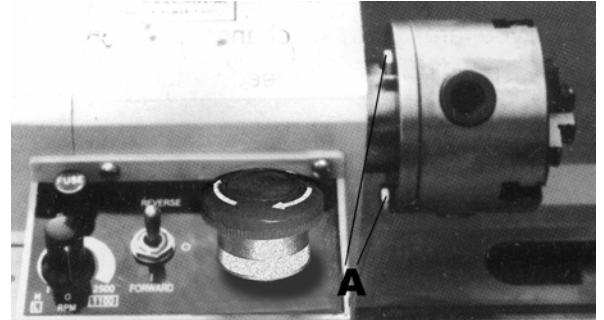

FIGURE 4
When replacing the chuck, place a cloth or a piece of wood on the bedway underneath the chuck. This is to avoid damage to the bed way caused by carelessly dropping the chuck. Loosen the three set screws and nuts (A) (only two are shown) as shown in Fig. 4, to remove the chuck. Position the new chuck and fix it using the same set screws and nuts (A).